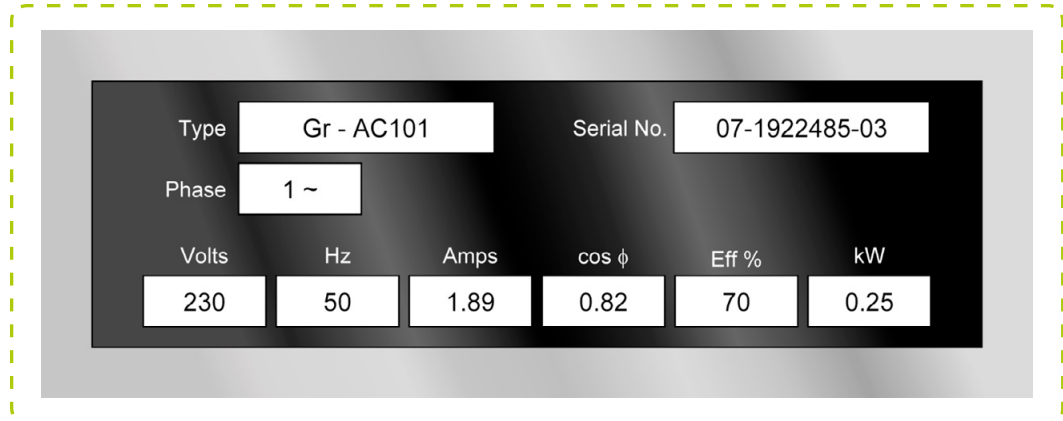

Figure 1
Figure 1 shows an example of a nameplate attached to an AC motor. Discuss what each of the values might represent.
- 2 Use the values on the nameplate shown in **Figure 1**, and the values calculated in Activity 3 to calculate values for the resistive and reactive power components for this motor. Plot the values on a diagram and calculate the vector sum of the resistive and reactive powers. Compare the result with the total electrical power consumed by the motor (see activity 2).